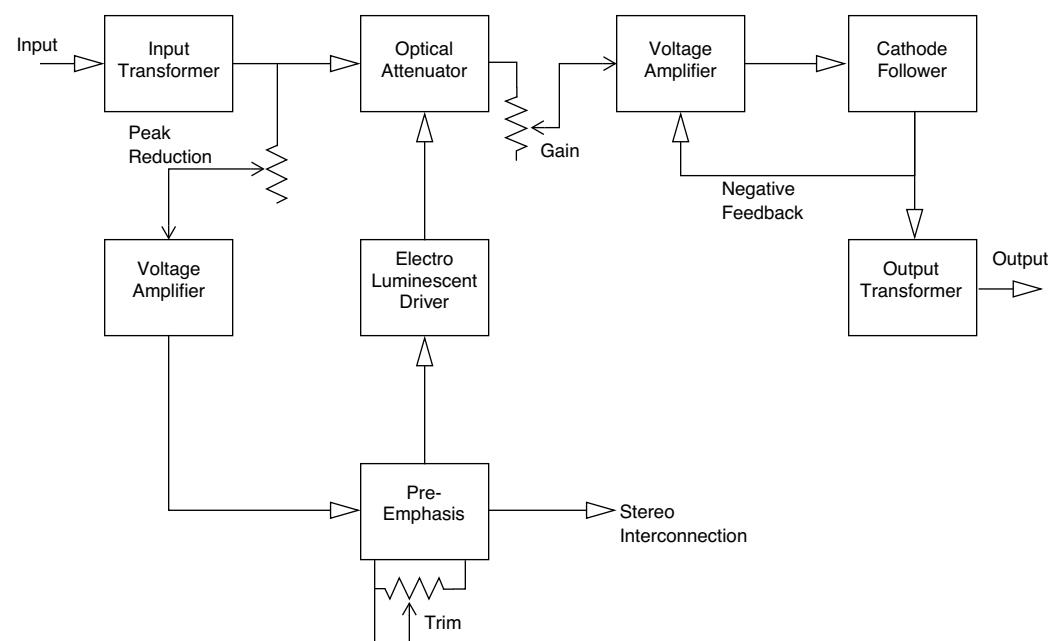

Figure 43. LA-2A signal flow
**LA-2A Signal Flow** A functional block diagram of the LA-2A Leveling Amplifier is provided in Figure 43. The input transformer provides isolation and impedance matching. After this the signal is fed into both the side-chain circuit and the gain reduction circuit. The side-chain is comprised of a voltage amplifier, a pre-emphasis filter, and a driver stage that provides the voltage necessary to drive the electro-luminescent panel. This signal controls the gain of the compressor. After the gain reduction circuit, the signal is sent through an Output Gain control and a two-stage output amplifier, followed by the output transformer.